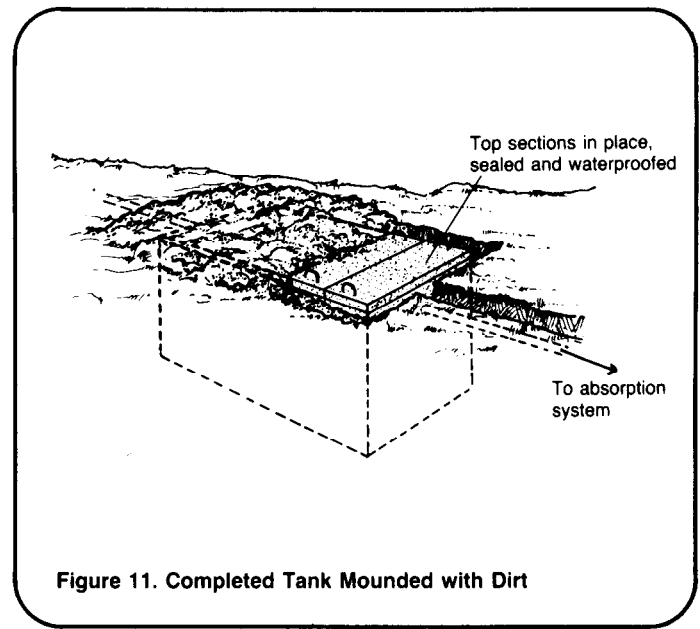

Figure 11. Completed Tank Mounded with Dirt
20. Cover the tank with a mound of dirt to prevent surface water from forming a pool on top of the tank as shown in Figure 11. Mark the tank site with sticks, stakes, piles of rocks, or other means to help find it at inspection time. The mound itself can be a means of identifying the tank site.